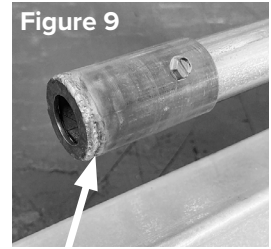

**Figure 7**
7. Once the glass media burner has been removed, locate the Logset burner included in the kit LGS-16 as shown below in **Figure 7**.